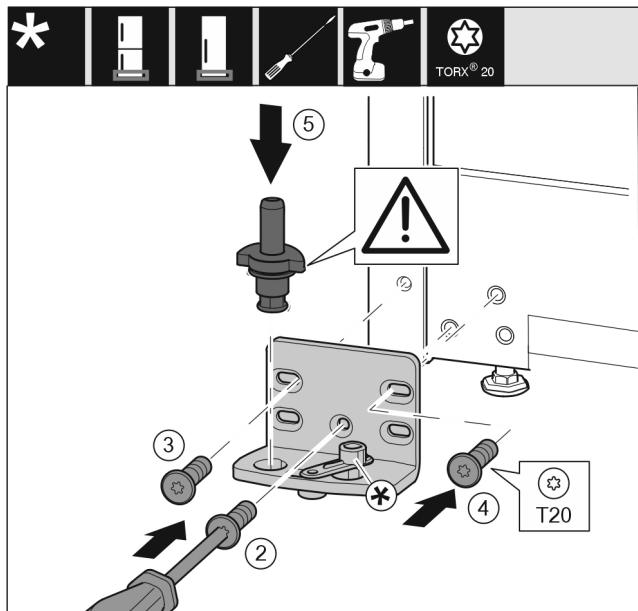

Fig. 19
- ▶ Place the swap bearing block on the other side and use a screwdriver to screw it on. Start with the screw *Fig. 19 (2)* at the bottom in the middle.
- ▶ Tighten screw *Fig. 19 (3)* and screw *Fig. 19 (4)*.
- ▶ Insert the bearing bolt *Fig. 19 (5)* completely. Ensure that the latching cam is pointing towards the rear.